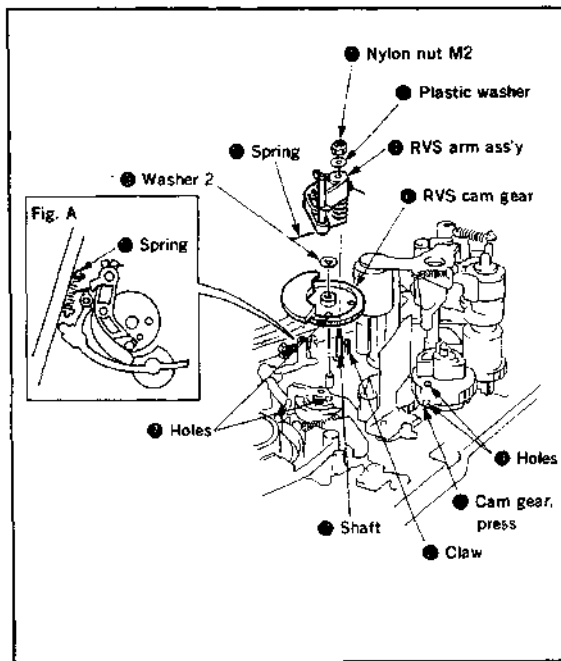

Fig. 3-14.
### 3-8. RVS ARM ASS'Y AND RVS CAM GEAR (Fig. 3-14)
- 1) Remove the reel lock release ass'y. (Refer to Fig. 3-14.)
- 2) Disengage the three claws marked ① and the claw marked ②, then remove the tension regulator band ass'y ③.
- 3) Unhook the end of the spring ④ from the chassis.
- 4) Disengage the claw ⑤, then pull out the tension regulator arm ass'y ⑥.